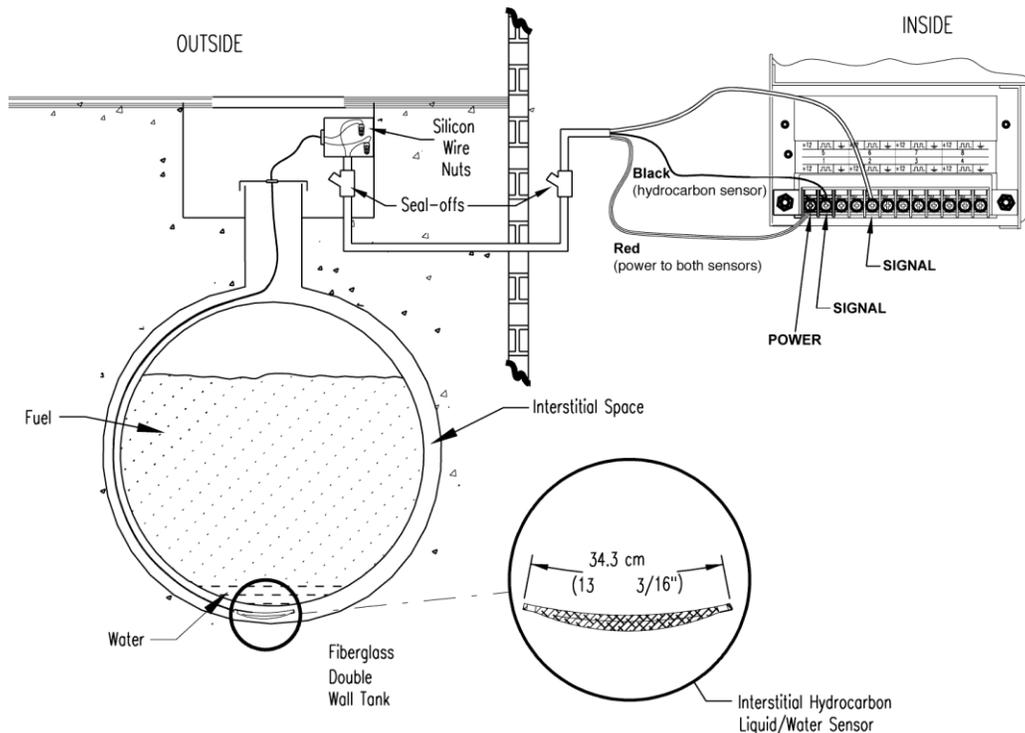

Figure 13-2 Interstitial (IS) Hydrocarbon Liquid/Water Sensor Installation
- Review Figure 13-2 on page 40. Use the supplied cable gland and silicone wire nuts.